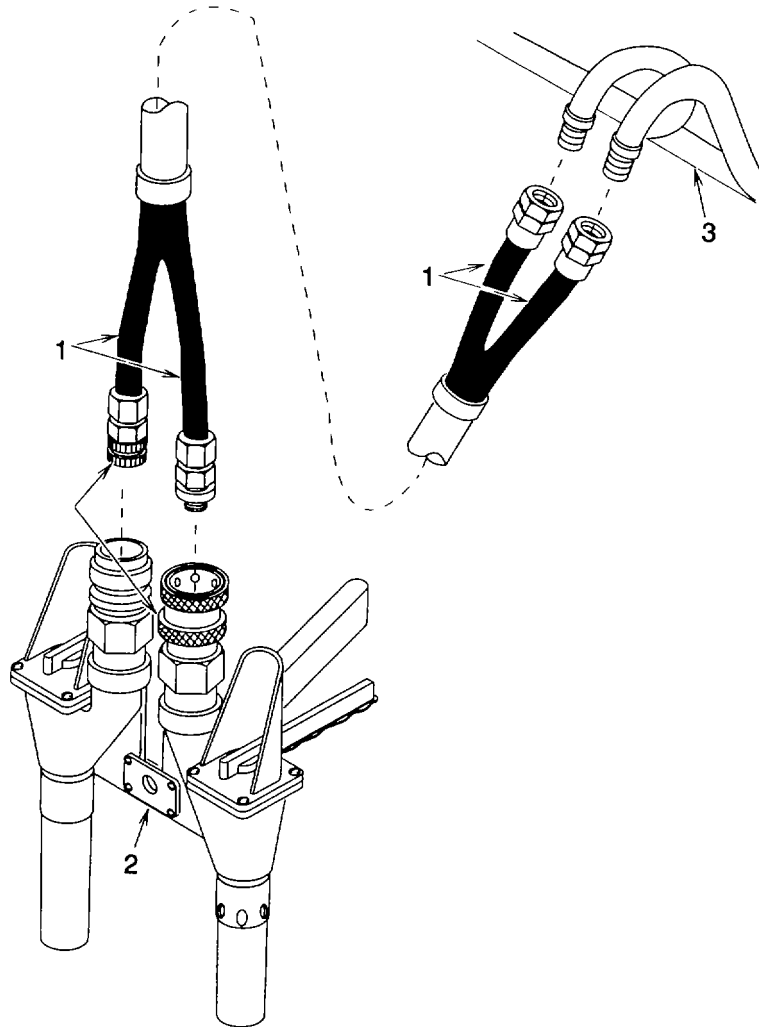
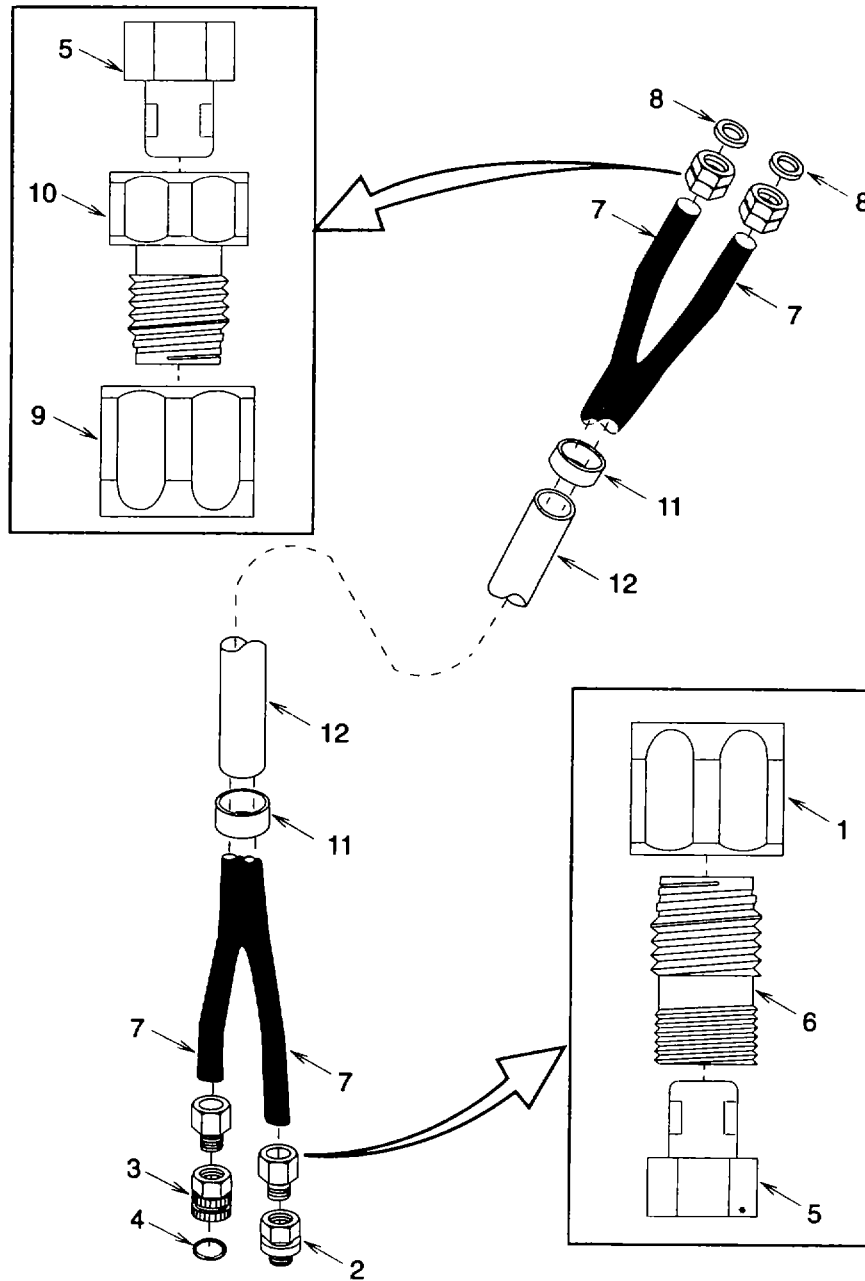

Figure 4-11. Hose Removal
Figure 4-12. Hose Assembly
- a. Removal (See Figure 4-11.)
b. Disassembly (See figure 4-12)
d. Assembly (See figure 4-12.)
- (1) If old hoses (7) are to be re-used, cut off any damaged portion of hose end.
- (1) Check to be sure gaskets (8) (fig 4-12) are in place then connect fire hose (1) (fig 4-11) to hose reel distributor (3) connections with dry chemical hose connected to roadside distributor connection